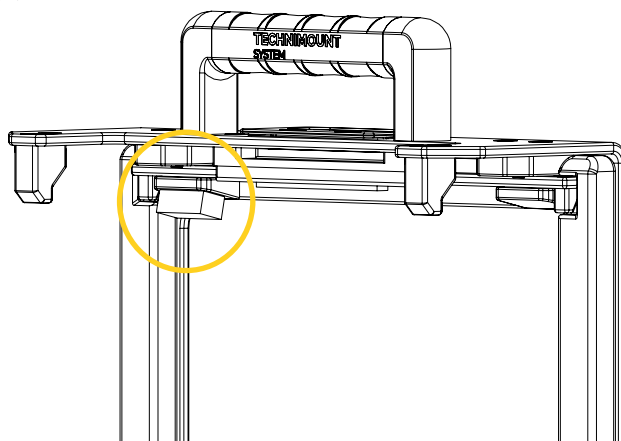

Figure 24: Installing the new EPDM foam
5. Align and stick a new 3/8 in. X 1/2 in. X 1 in. EPDM foam behind the left locking block retainer (Figure 24).